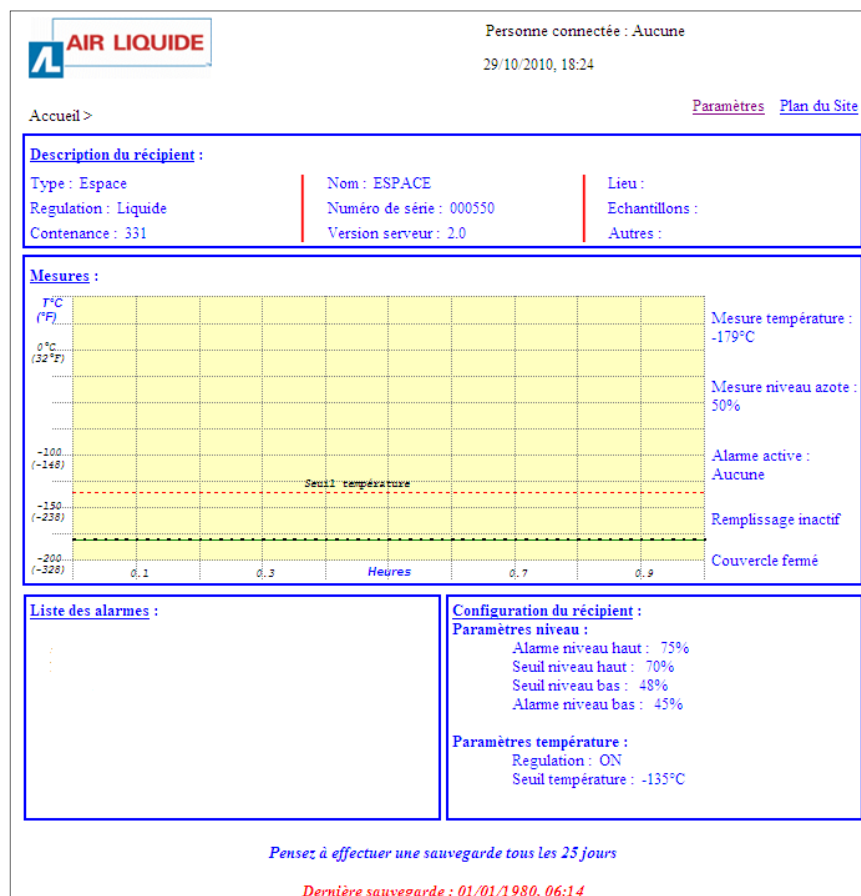

Figure 14-7: integrated web server Home page.
2. With the internet browser displaying the integrated web server's *Home* page (see Figure 14-7), click on *Settings*.